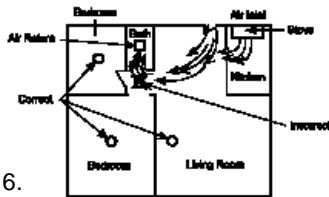

Figure 6.
- **In air streams passing by kitchens.** Figure 6 shows how an alarm can be exposed to combustion particles in normal air movement paths, and how to correct this situation.